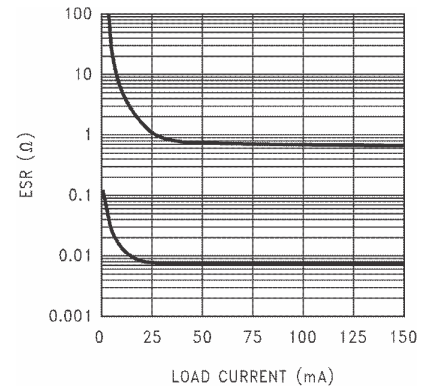
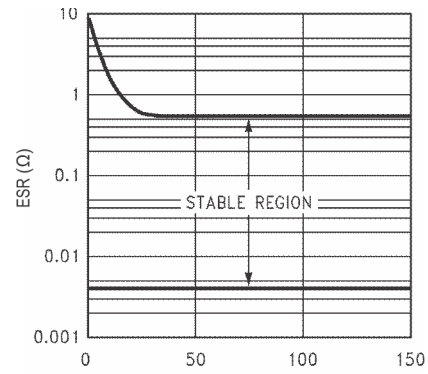

图 5-36. 2.2- μF Stable ESR Range for Output Voltage $\leq 2.3\text{ V}$ for Legacy Chip
图 5-38. 2.2- μF , 3.3- μF Stable ESR Range for Output Voltage $\geq 2.5\text{ V}$ for Legacy Chip
- ESR range: see 图 5-36 through 图 5-38